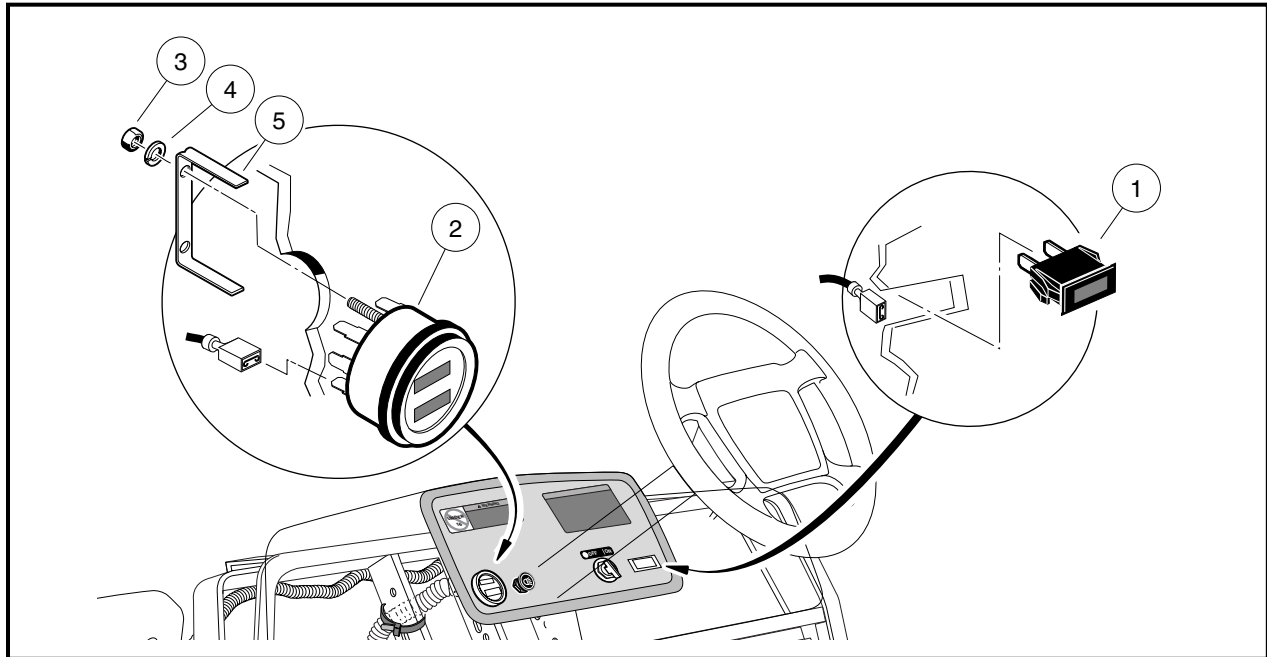

Figure 12-24 Fuel Gauge/Hour Meter and Low Oil Warning Light Installation
4. Disconnect the wires from the low oil warning light (1) (**Figure 12-24, Page 12-21**). Do not allow wires to touch.
1. Push a new unit into hole in dash until plastic tabs engage dash (**Figure 12-24, Page 12-21**).
4. Disconnect the wires from the fuel gauge/hour meter (2) (**Figure 12-24, Page 12-21**). Do not allow wires to touch.
5. Remove the two hex nuts (3) and lock washers (4) from the threaded studs on the back of the gauge. Remove the mounting bracket (5) from the back side of the gauge/meter and remove from the dash.
1. Install a new gauge/meter into hole in dash until flange seats against dash (**Figure 12-24, Page 12-21**).